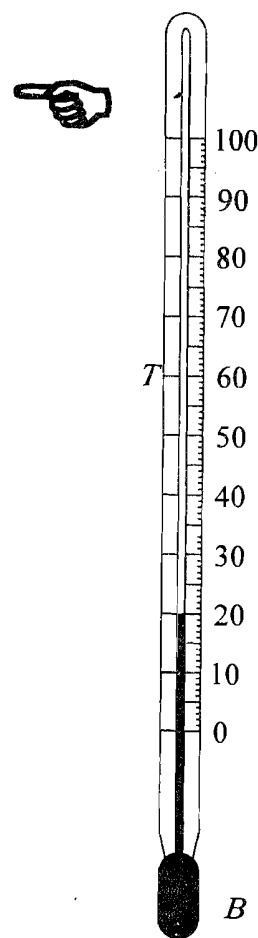

Fig.3.16: A liquid-in-glass thermometer
A mercury thermometer (Fig.3.16) consists of a long capillary tube called a stem whose one end is shaped like a bulb (B). The bulb and a part of the stem are filled with mercury. The other end of the stem is sealed. Near the end of the capillary tube, there is an expansion chamber. This is to save the thermometer from damage in case it gets over-heated. There are graduations along the stem to indicate the temperature (T).